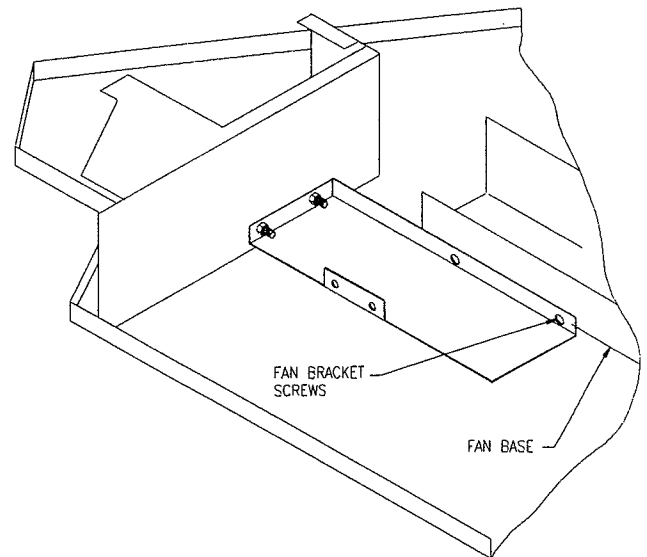

Figure 27
4. Remove the two fan bracket to fan base securing screws (see Figure 27).